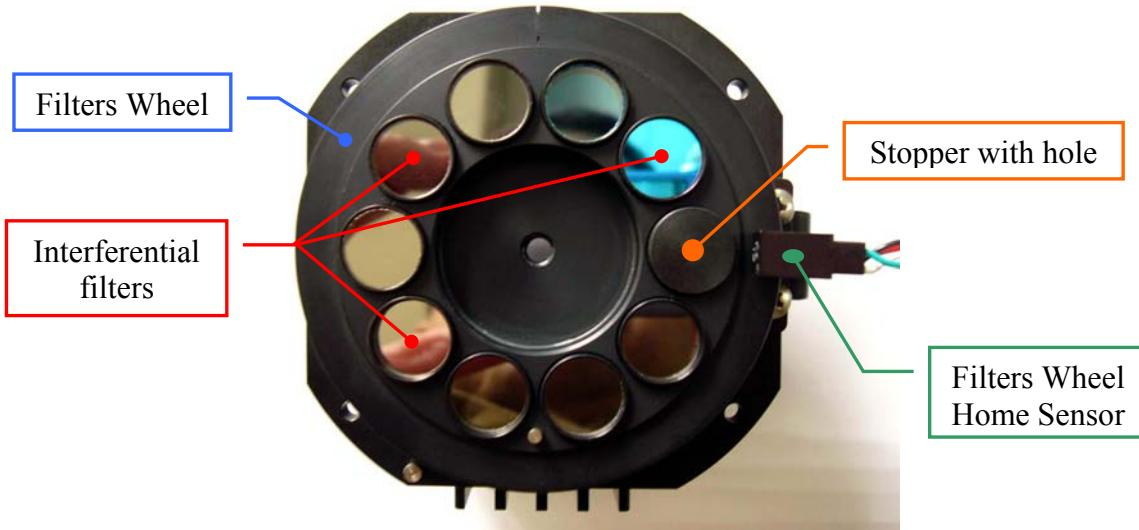

Fig. 74 – Interferential Filters on the Filters Wheel
3. Turn the Filters Wheel around the Filters Wheel motor shaft until the dark position of the Filters Wheel (compare the scheme MA-15-02448-00) is centered with respect to the Filters Wheel Home Sensor (**Fig. 74**), unscrew the Filters Holder Wheel fastening screw (**Fig. 72**) and remove the Filters Holder Wheel from its housing making drift it along the dowel (**Fig. 72**).
4. Remove the specific interferential filter from its seating on the Filters Wheel (**Fig. 74**).